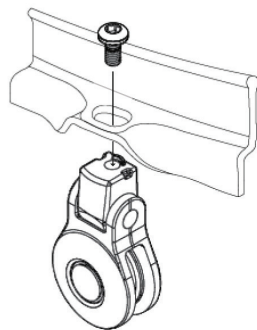

Fig. 3
2. Thread bolt (H1004) through the hoop, into the pulley fixture (PF101) (Fig. 3). Tighten until snug, **do not over-tighten.**